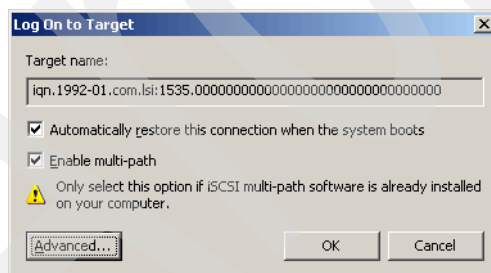

Figure 23-27 Log on to target
2. Check **Automatically restore this connection when the system boots** and **Enable multi-path**, as shown in Figure 23-27. This makes sure the login will be done each time the server reboots. Multi-path must be enabled to allow multiple logons to the same target. In step 9 on page 566, we show how to enable multiple connections.